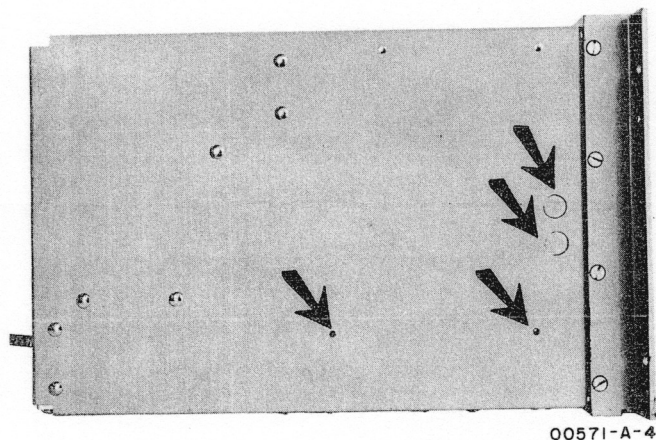

Figure 2-1. Recorder, Left Gusset
- e. Cut holes in left gusset of recorder as shown in figure 2-1. Remove cable clamp (if used) from inside of gusset before drilling to prevent damage. Use the template to accurately position the holes. Do not remove felt from inside of gusset.